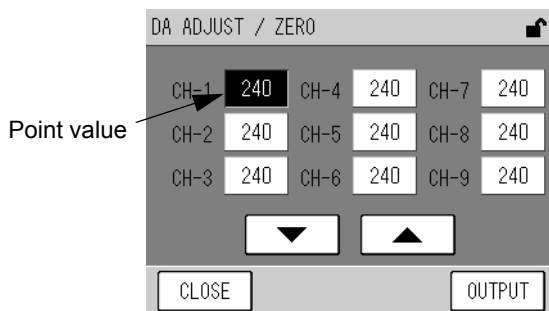

Fig. 58 DA ADJUST/ ZERO screen
- [ZERO]: Displays the DA ADJUST/ ZERO screen for zero calibration of analog output (Fig. 58 on page 46).